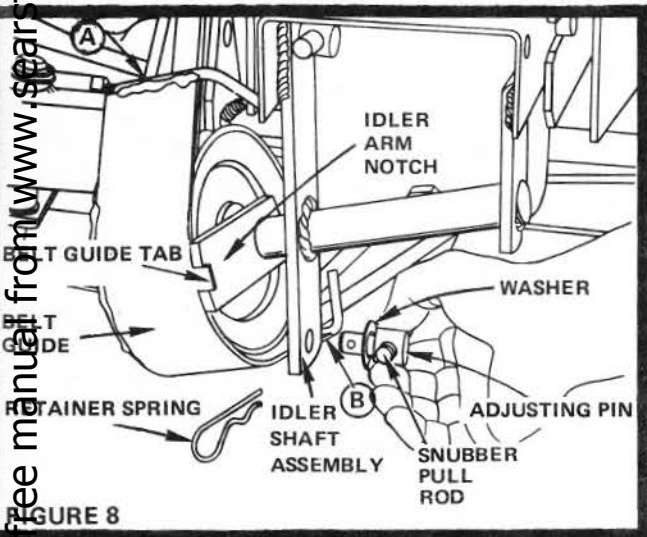

FIGURE 8
4. Assemble Belt Guide to Idler Shaft. Position Belt Guide Tab in Idler Arm Notch (Fig. 8).
- a. Thread Adjusting Pin on Snubber Pull Rod until Adjusting Pin will enter hole in Idler Shaft Assembly (Fig. 8). Remove Adjusting Pin from hole. Turn Adjusting Pin counterclockwise 6 complete turns and slip Washer on Pin. Insert Pin in Idler Shaft Assembly. NOTE: Mower Clutch Control Lever can be pulled ahead to assemble. Secure with Retainer Spring.